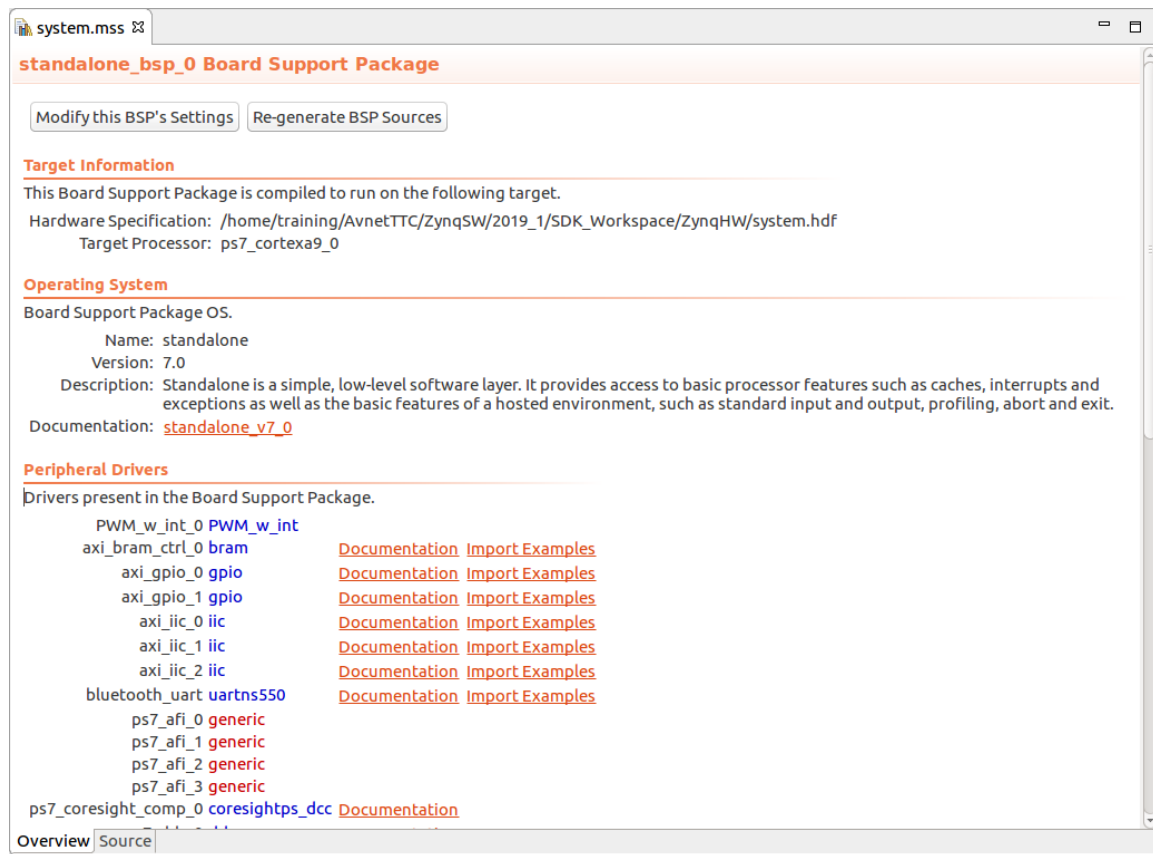

Figure 8 – BSP Report
1. Under the *Operating System* section, click on the hyperlink for **standalone_v6_5** to open the PDF documentation for Standalone. Browse to the Cortex A9 Processor API chapter. This document is UG647 and simply click on the "Cortex A9 Processor API" as shown in Figure 8 below. The Zynq ARM Cortex A9 specific APIs are shown here. Close the PDF when finished.